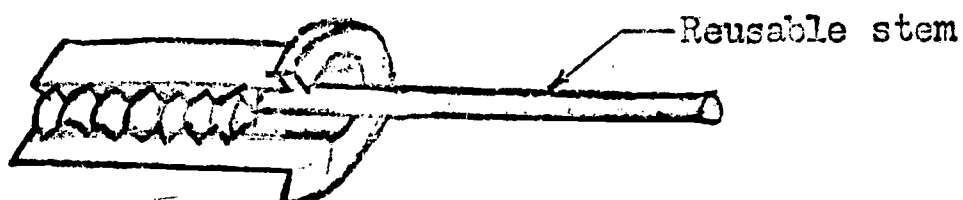

Fig. 5. Threaded "pop" rivet.
6. To set threaded "pop" rivets into the piece of 16 ga. metal, first screw the rivet on to the stem. See Fig. 5.